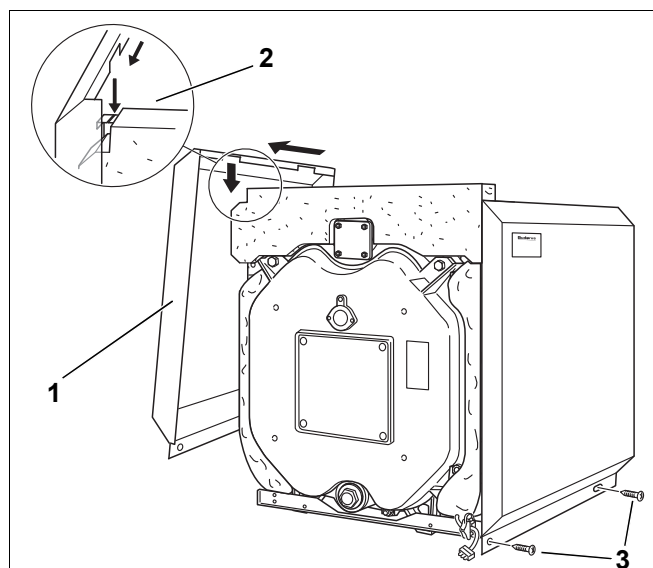

Fig. 35 Side casing installation
- Hook the side casing (Fig. 35, [1]) with cut outs into the slots of the upper cross support bracket (Fig. 35, [2]) and push forward against the end stop (see arrow in Fig. 35).
- With two self-tapping screws each secure the side walls at the bottom (Fig. 35, [3]).